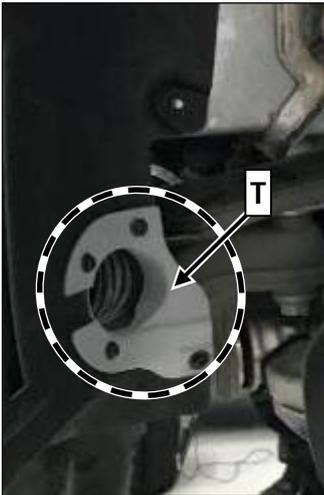

Figure 23
28. Install new connection fittings A190 885 65 04/A 190 885 66 04 at left and right of wheel well liner (T, Figure 23).